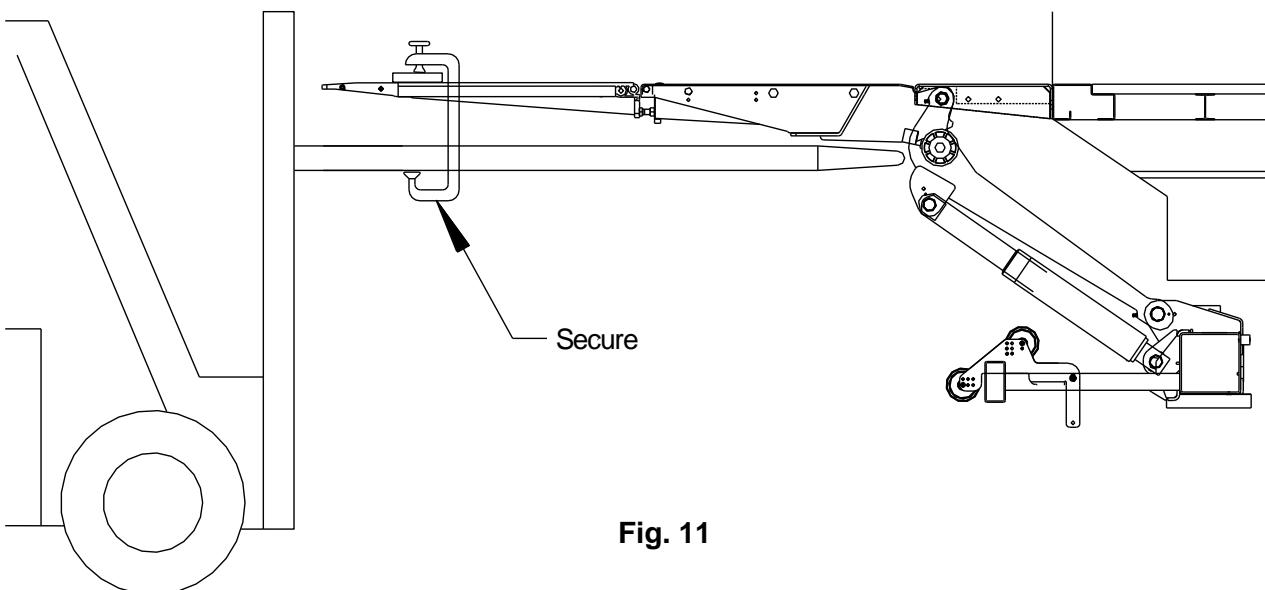

Fig. 11
1. Hoist Platform: Unfold platform manually and clamp forklift forks, overhead crane or equivalent to platform. Make sure the platform is secured. Always maintain the mount tube centered to the vehicles body, **Fig. 11**.